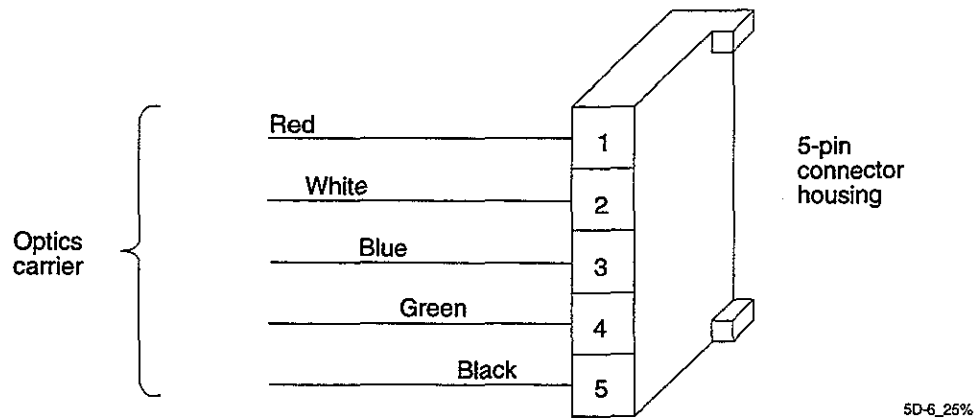

Figure 7-6. Optics Wiring Detail
5. Insert the pins into the 5-pin connector housing as shown in *Figure 7-6. Optics Wiring Detail*. Assure that the pins are locked securely into the housing by gently pulling on the wires.